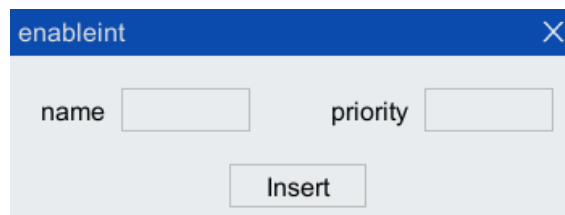

Figure 5-47 "enableint" instruction configuration interface
Step1.Click "Insert Cmd> Interrupt Trigger> enableint" option in the toolbar of the program editor to pop up "enableint" instruction interface, as shown in Figure 5-47.